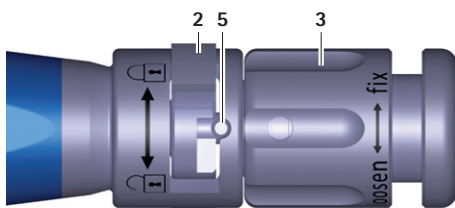

Fig. 4 Close-up view of the insertion instrument, trial implant/implant clamped
- Turn the rotary nut **3** on the insertion instrument **A** clockwise ("tighten" direction) until the trial implant is clamped, see Fig. 4.
- ▶ Turn the rotary nut **3** on the insertion instrument **A** clockwise (:"tighten" direction) until the trial implant is clamped, see Fig. 4.